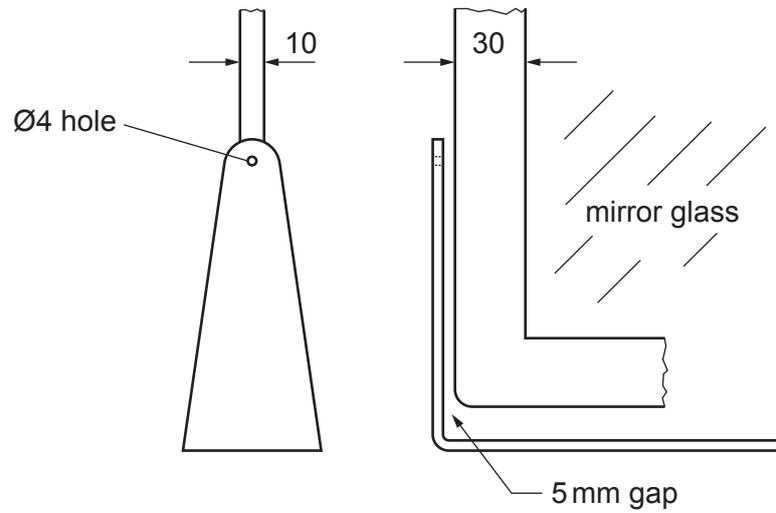

Fig. 11.3
- (d) Fig. 11.3 shows views of part of the stand and mirror.